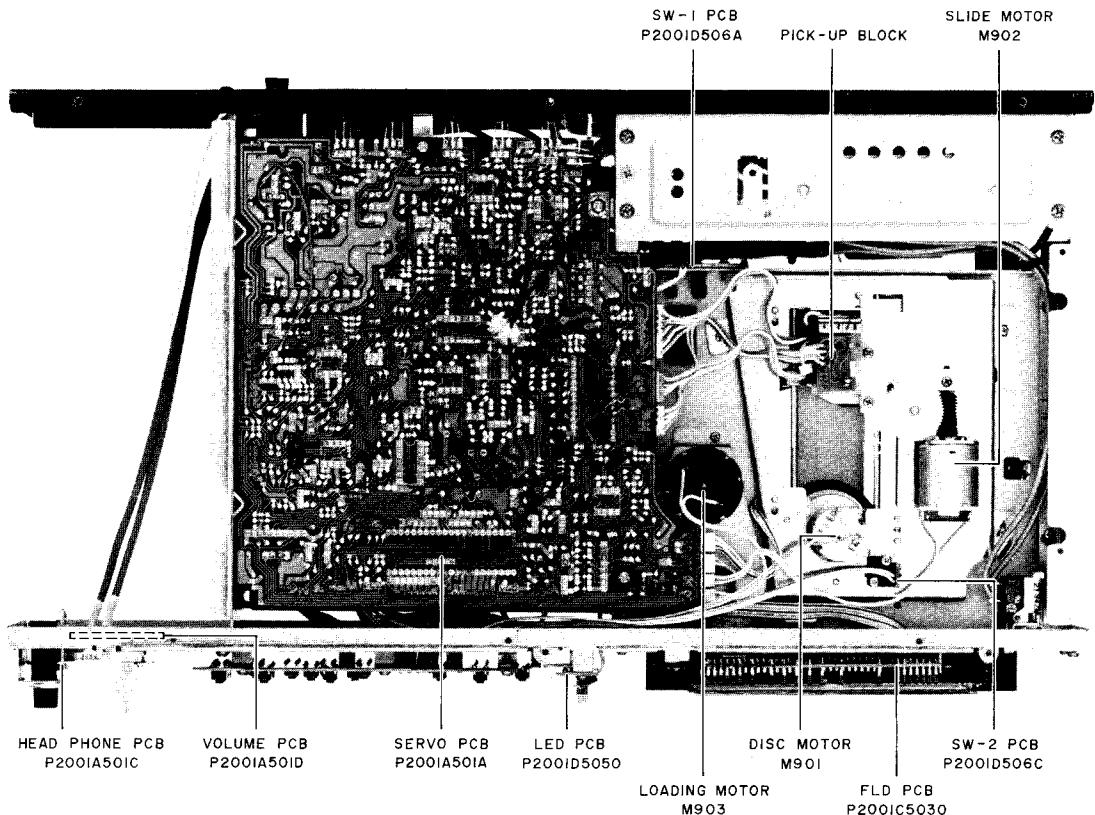

Fig. 4-2 Bottom View
- 3) Remove the slide gear fixed at the button. Refer to Fig. 4-2.
- 4) Move the disk clamer lever aside with a finger and remove the three disk motor fixing screws, (A)(B) and (C).
- 5) When the four screws (D), (E), (F) and (G), for the metal fittings of the pick-up guide rail are removed, the pick-up block guided rail can be removed.